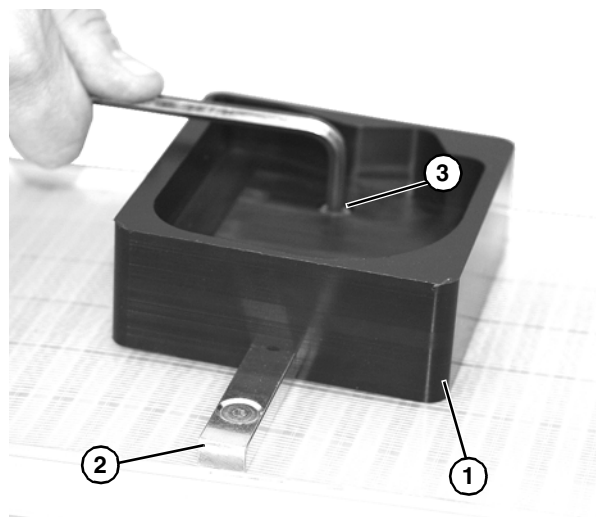

Figure 14
5. Install pallet (Figure 14, item 1) onto belt fixture (Figure 14, item 2). Attach with M6 screw(s) (Figure 14, item 3). Tighten to 60 in-lb (7 Nm).